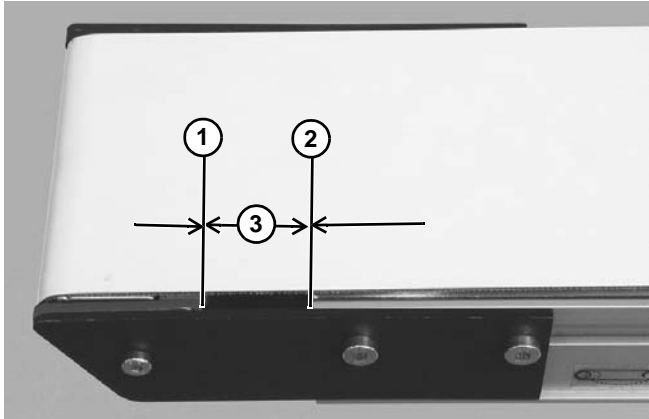

Figure 43
- Adjust head plate assembly so the edge of the axle support plate (**Figure 43, item 1**) is separated from the end of the conveyor (**Figure 43, item 2**) by 1.125" (29 mm) (**Figure 43, item 3**). Replace belt if proper tensioning can not be obtained within a distance of 1.50" (38 mm). See NOTE.